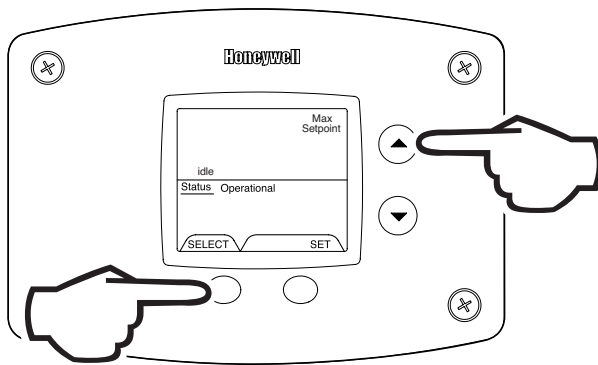

Fig. 55
5. 30 Seconds after the last button press, the Water Heater Display will go back to 'User Mode'. It will read 'Max Setpoint' without showing a temperature value if the temperature setpoint is at the maximum setting. The Water Heater Display can be set back to the 'User Mode' immediately by pressing both the 'Temperature Up' and 'Select' buttons together for 3 seconds (Fig. 55).